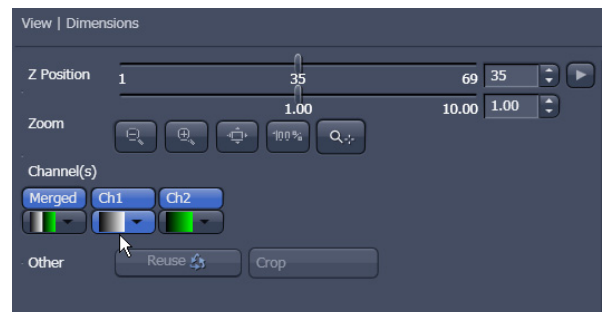

Fig. 21 View Dimensions Control Block
- In the **View – Dimensions** View Option Control Block, click inside the color field in the  button under the channel button (Fig. 21).